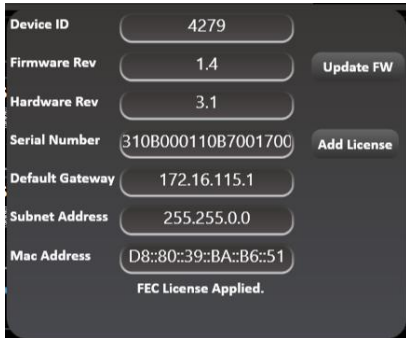

Figure 9: Device Tab
- The device tab where all board details are displayed (Figure 9).